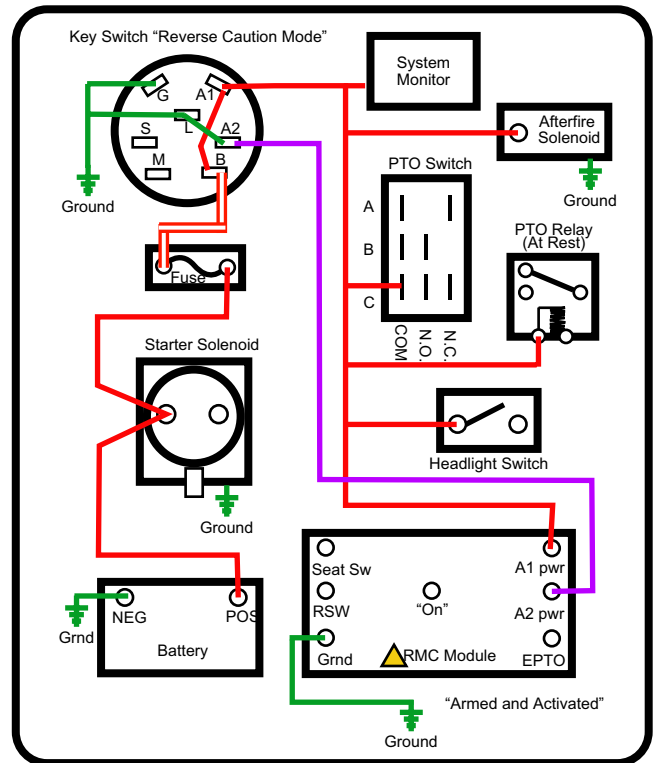

Figure 7.17
3. The RMC module arms when it gets a ground signal from A2 through the "A2 pwr" terminal on the RMC module. See Figure 7.17.